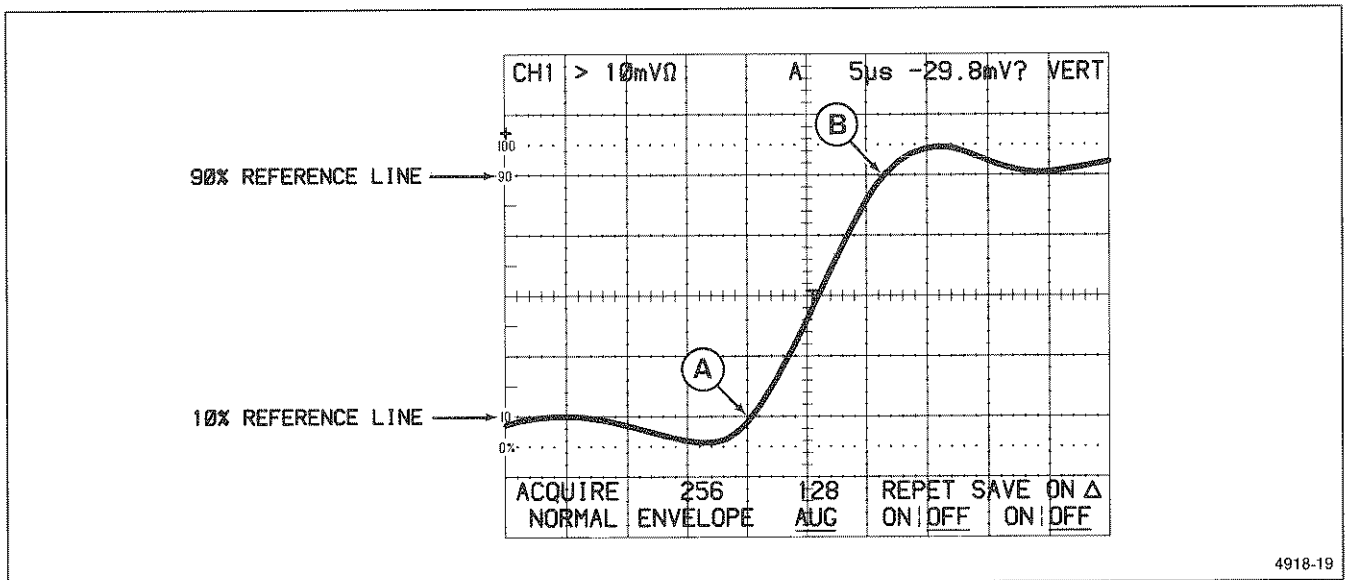

Figure 6-5. Rise time of a square wave (time duration).
5. Horizontally position the square wave so the 10% point on the waveform intersects a vertical graticule line near the left side of the screen (see point A of Figure 6-5).
6. Count the number of horizontal divisions (include fractional div) between the 10% and 90% amplitude levels (points A and B of Figure 6-5) on the waveform. Use the following general formula for time duration measurements to determine the rise time:
EXAMPLE: Figure 6-5 gives the SEC/DIV control setting as 1 μs for the A time base. Counting the number of divisions between the 10% and 90% (marked as A and B in diagram) yields 2.2 divisions. Substituting into the formula: